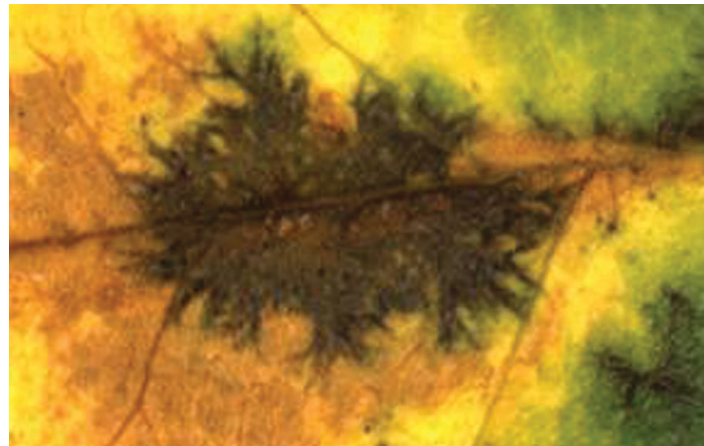
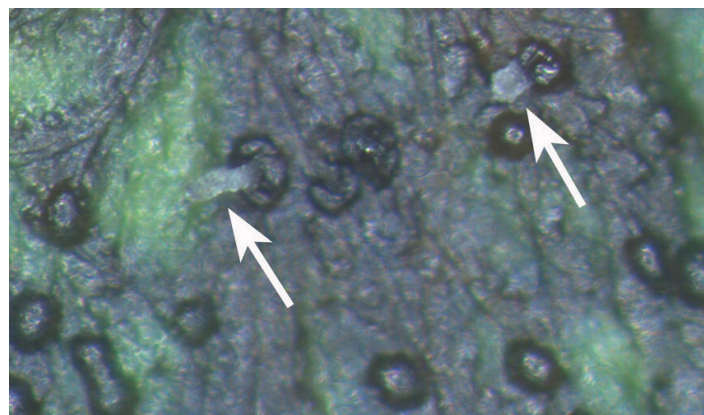

Figure 1b. Typical lesion of black spot on a rose leaf.
Figure 2a. Black acervuli on a lesion caused by *Marsonina rosae*. Note the white masses of conidia (arrows), 50x.
M. rosae produces black spots of about two to 12 mm in diameter usually in the upper surface of the leaves (Figure 1a). Often, those spots may have irregular, radiate, feathery borders (Figure 1b). In older lesions, black spore-bearing structures, called acervuli, can be observed as well as white, slimy masses of conidia (Figure 2a). Yellowing around the lesions on infected leaves can occur, and severe defoliation occurs in the most susceptible cultivars. While leaves are the most susceptible part of the plant, stipules and pedicels can also be infected. Spots can also be found also in peduncles, fruits, and sepals. Symptoms of black spot are usually confused with those of *Cercospora* leaf spot (See EDIS publication *Cercospora Leaf Spot of Rose* at <http://edis.ifas.ufl.edu/PP267>).